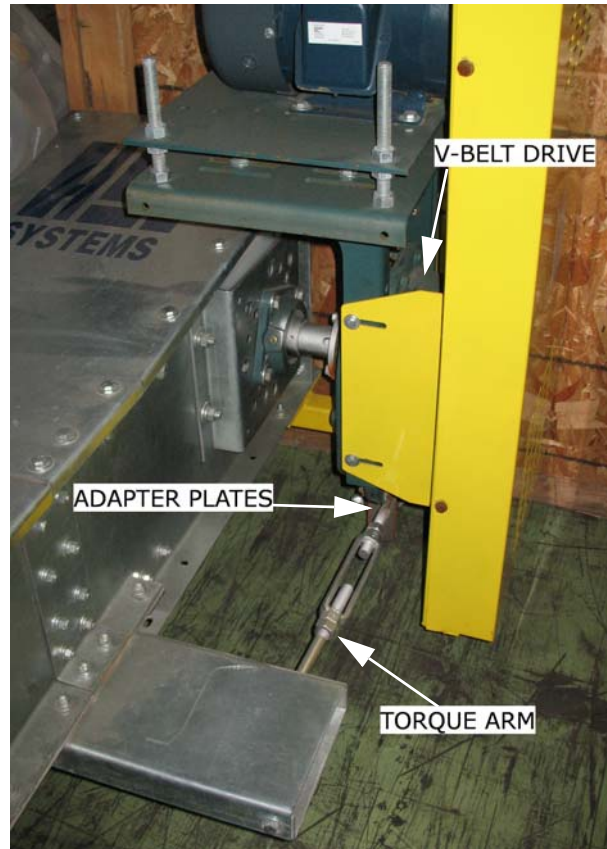

Figure 3.8
6. Install torque arm on reducer and equipment using hardware provided (See Figure 3.8). Make sure that there is sufficient take-up in the turnbuckle for belt tension adjustment when using V-belt drive.